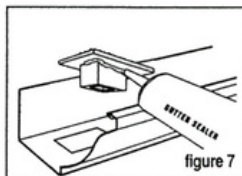

figure 7
Determine location of outlet (12) and cut hole to size in bottom of gutter (figure 7). Apply a bead of Gutter Sealer around flange of outlet and press into place. Apply a bead of sealer along the inside edges of all joints.